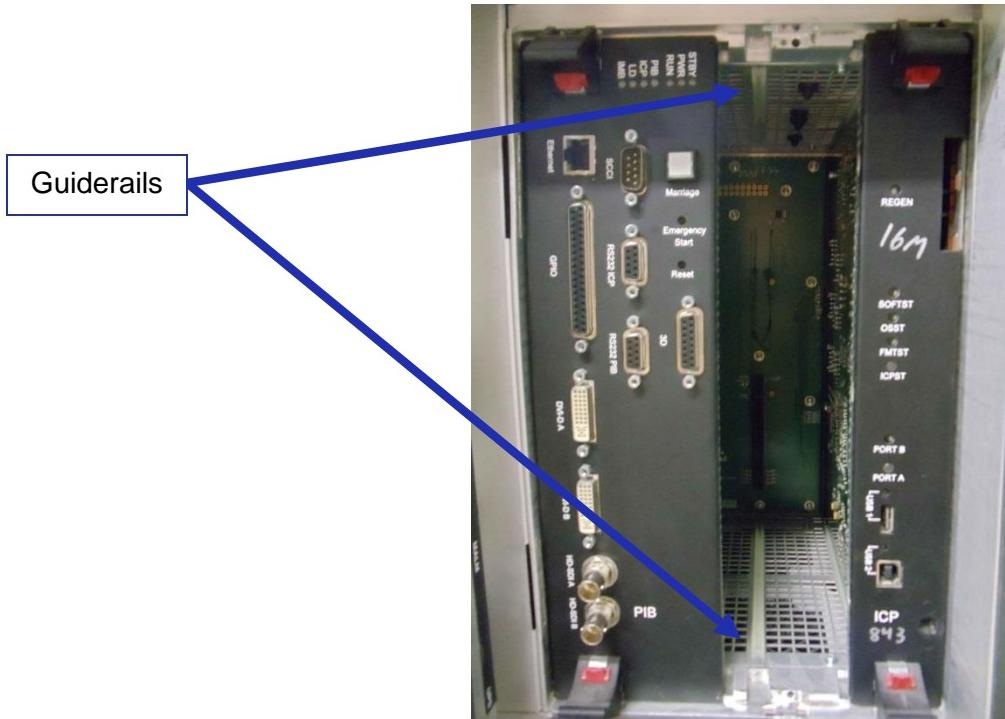
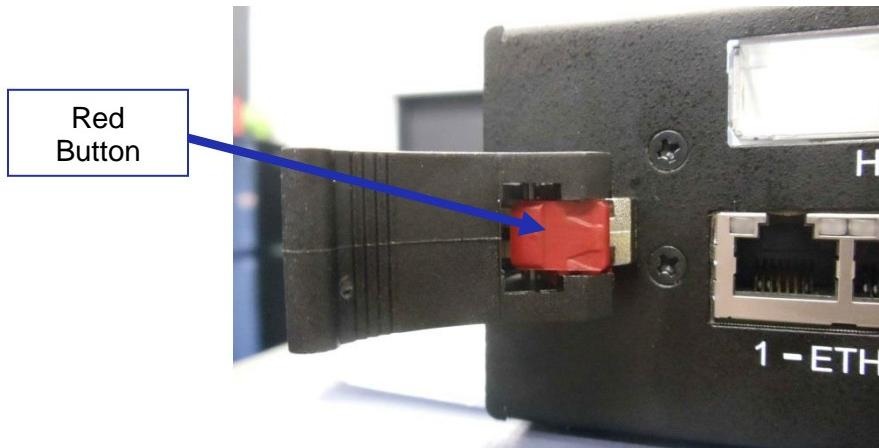

Figure 66: Empty Media Block Slot
Figure 67: Red Button on Latch
- The media block slot should now be empty (Figure 66).
- Gently place the IMS1000 board into the projectors media block slot guiderails on the inside of the slot (Figure 66). The latches must be out and open for the IMS1000 to fit properly. To open the latches, press on the red button (Figure 67).